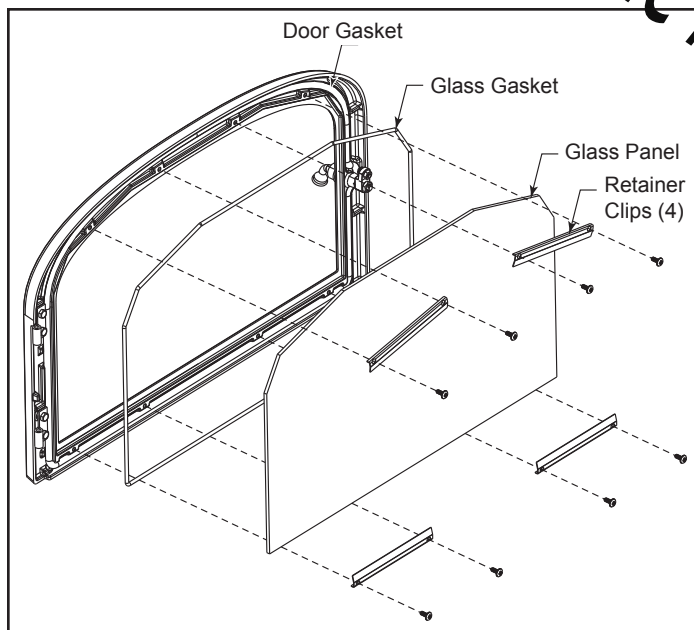

Figure 13 - Replace glass.
- Open the door and loosen the four retaining clip screws that hold the glass to the door. Swing the door out of the way. Tilt the glass away from the door frame and lift up. (Figure 13) Wear gloves and use caution when handling broken glass.